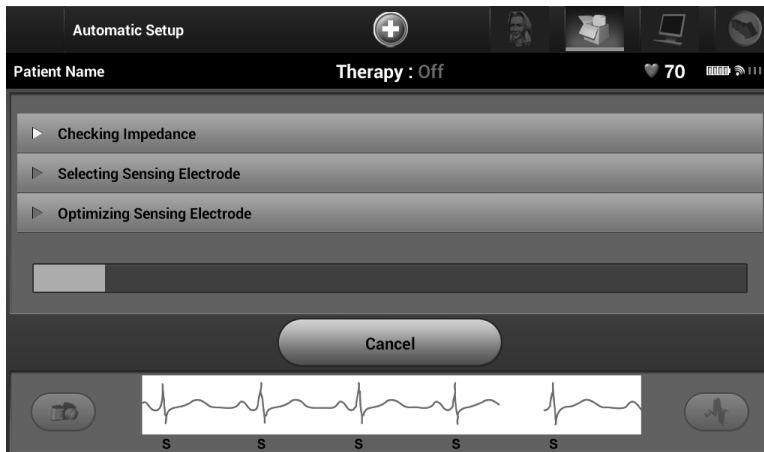

Figure 24: *Measuring electrode impedance*
- Perform the shock electrode integrity check to measure electrode impedance (Figure 24). Normal sub-threshold impedance range is < 400 Ohms.